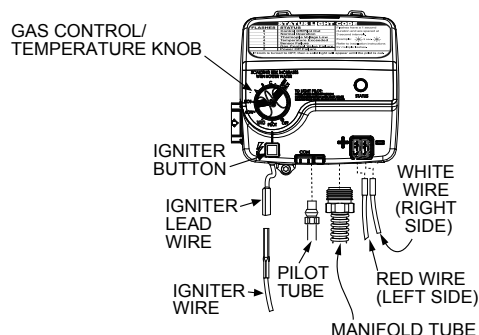

FIGURE 20.
1. Turn the gas control/temperature knob to the "OFF" position (Figure 20).
5. Disconnect the following from the gas control valve/thermostat: pilot tube (SAE 7/16" wrench), igniter wire (from the igniter lead wire), and manifold tube (SAE 3/4" wrench). See Figure 20.
6. Disconnect the white and red wires from the gas control valve/thermostat (Figure 20). Use needle nose pliers to grip the connector(s). **IMPORTANT:** Grip the connector carefully to prevent damage. Do not grip or pull the wires themselves.
6. Reconnect the manifold tube (SAE 3/4" wrench) and pilot tube (SAE 7/16" wrench) to the gas control valve/thermostat (Figure 20). Do not cross-thread or apply any thread sealant to the fittings.
8. Reconnect the igniter wire (Figure 20).
4. Disconnect the igniter wire from the igniter lead wire. Use needle nose pliers to disconnect the red (+) and white (-) thermopile wires. Disconnect the pilot tube (SAE 7/16" wrench) and manifold tube (SAE 3/4" wrench) at the gas control valve/thermostat (Figure 20). **NOTE:** L.P. Gas systems use reverse (left-hand) threads on the manifold tube.